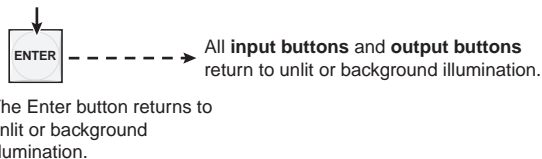

Figure 3-9 — Press the Enter button
- Press and release the Enter button (figure 3-9).